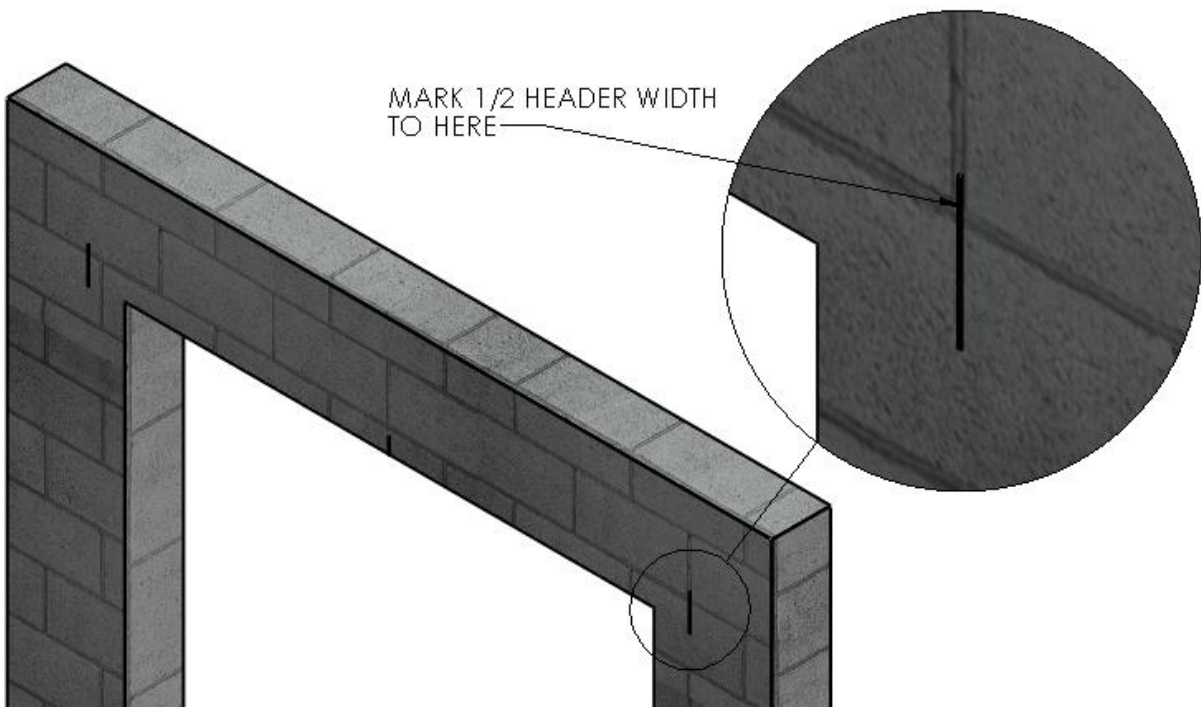

Figure 3 MARK DOOR WIDTH ON WALL
4. Divide that number by 2 and measure to each side of the center mark from step 1. Mark a vertical line above the opening at these locations. This is where the outermost edges of the Header Bracket mount flanges will be. (Figure 3 MARK DOOR WIDTH ON WALL)